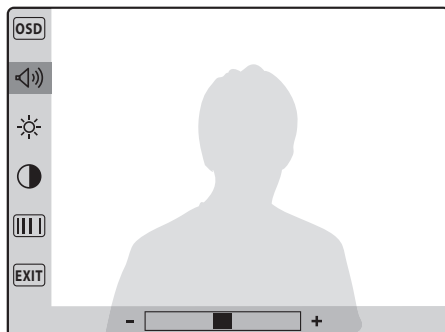

Fig.4
- To enter into programming menu press the button Fig.4.